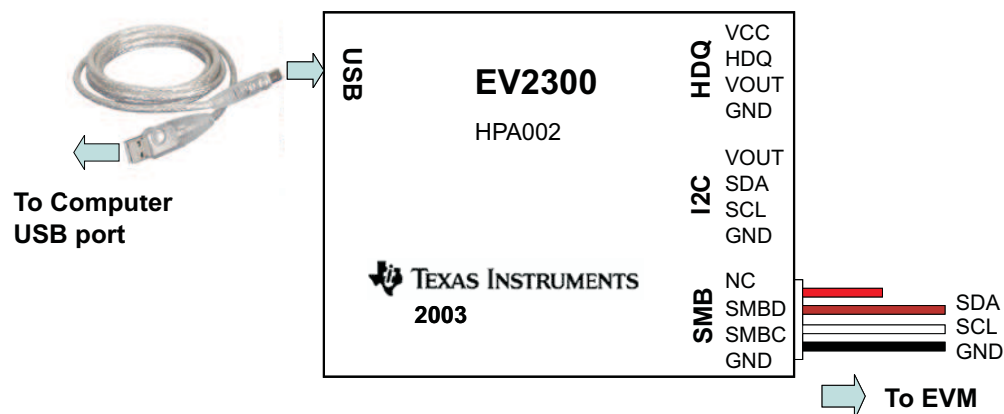

Figure 1. EV2300 Kit Connections
8. Connect J4 (SDA, SCL) and J4 (GND) to the EV2300 kit SMB port. See Table 1 for a connection reference. Connect the USB port of the EV2300 kit to the USB port of the computer. The connections are shown in Figure 1.